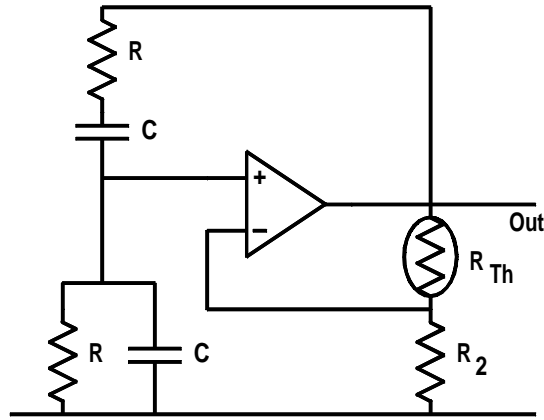

Figure 53.8: Problem 53.6.
- 53.6 Design a Wein bridge oscillator for a fixed frequency of oscillation of 1300 Hz using the circuit in Figure 53.8. Note that the type RA53 thermistor, R_{Th} , has a resistance of 5 k Ω at 20°C decreasing to 80 Ω at about 90°C.